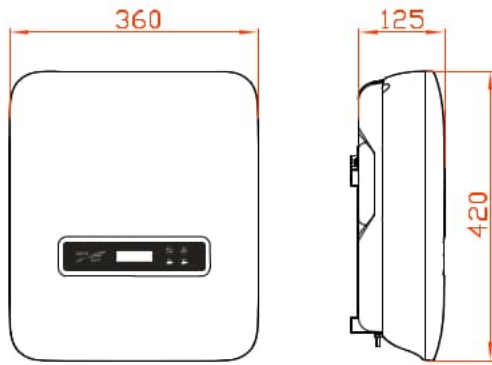

Figure3-5 Size (unit: mm)
- Step 1 Determine the installation place based on the inverter size (as shown in Figure3-5) and installation space (as shown in **3.2.3 Installation Space**).